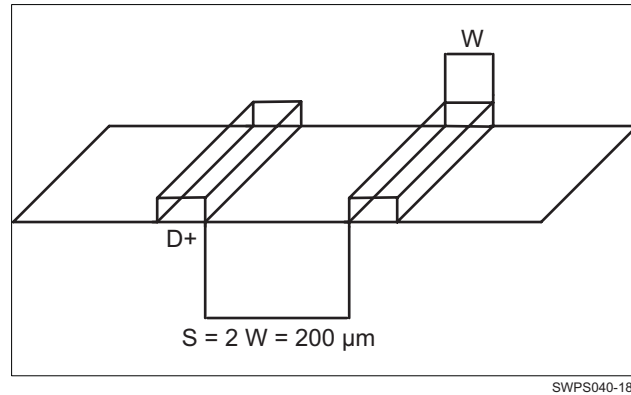

图 7-28. Ground Guard Illustration
- For a line width equal to  $W$ , the spacing between two lines must be  $2W$ , at least. This minimizes the crosstalk between switching signals between the different lines. On the PCB, this is not achievable everywhere (for example, when breaking signals out from the device package), but it is recommended to follow this rule as much as possible. When violating this guideline, minimize the length of the traces running parallel to each other (see 图 7-28).